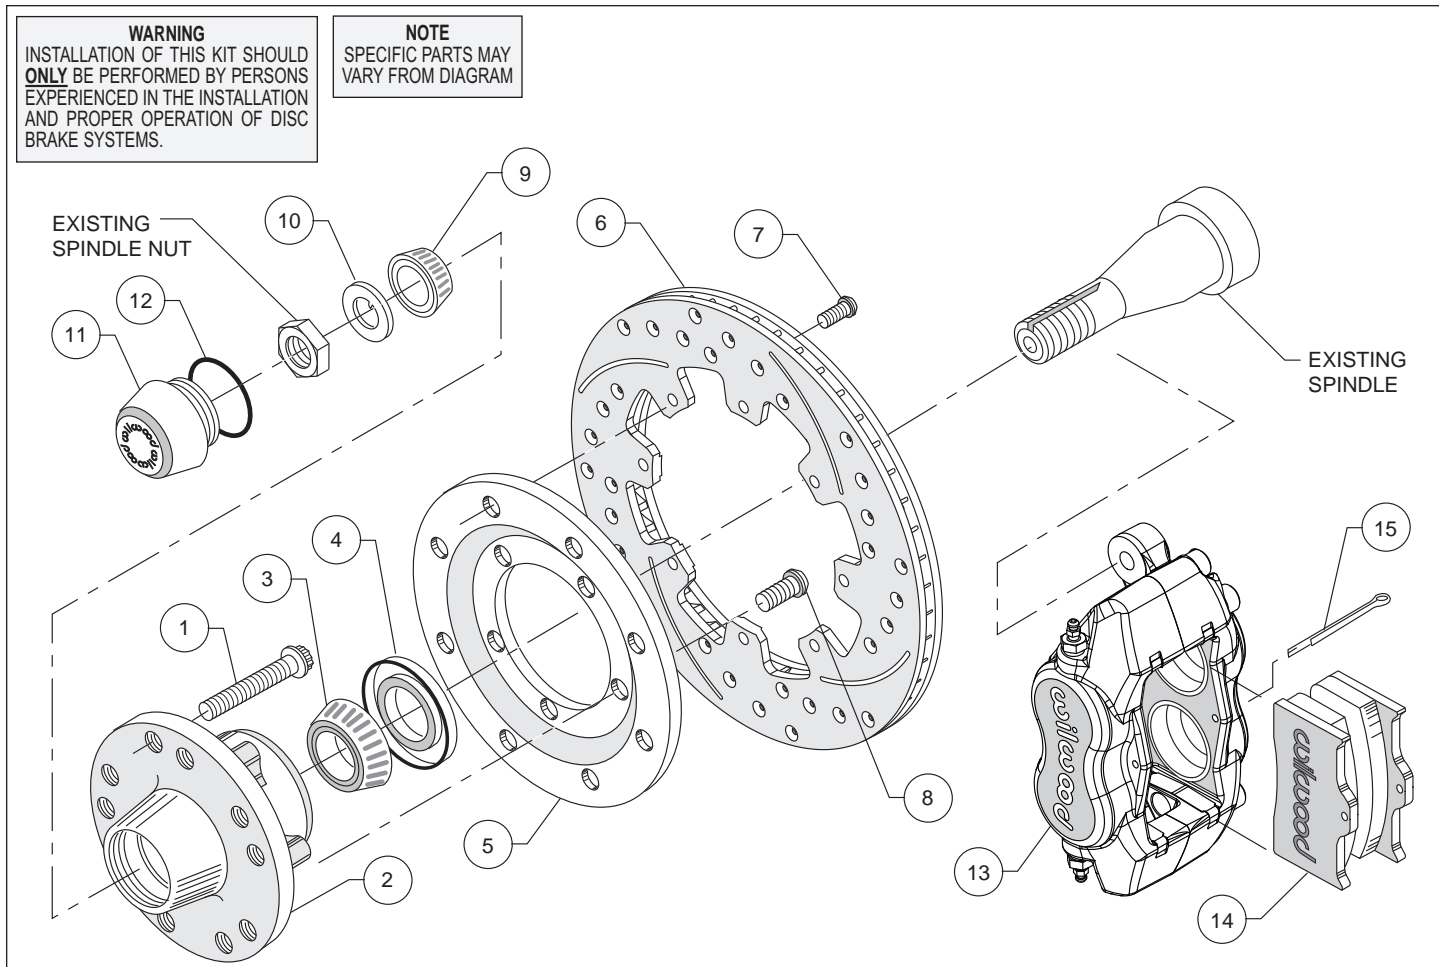

Figure 1. Typical Installation Configuration
- Install wheel studs (1) into the hub (2). Torque to 77 ft-lb. **NOTE:** There are two lug patterns of five holes each in the hub (5 x 4.50 and 5 x 4.75). Make sure of the correct hole pattern for the wheel application before installing the studs into the hub.
- Orient the rotor (6) and the rotor adapter (5) as shown in Figure 1. Attach the rotor to the adapter using bolts (7). Using an alternating sequence, apply red *Loctite*® 271 to the threads, and torque to 25 ft-lb.
- Mount the adapter/rotor assembly (5/6) to the hub (2) using bolts (8), as shown in Figure 1. Using an alternating sequence, apply red *Loctite*® 271 to the threads, and torque to 45 ft-lb.
- Pack the large inner bearing cone (3) with high temperature disc brake bearing grease (available from your local auto parts store) and install into the backside of the hub (2).
- Install the grease seal (4) by pressing into the backside of the hub (2).
- Pack the small outer bearing cone (9) with high temperature disc brake bearing grease and install into front of hub (2). Slide the hub assembly (2, 3, 4 and 6) with outer bearing cone (9) onto the spindle. Secure using spindle washer (10), stock adjusting nut and nut locking device. Adjust bearings per Original Equipment Manufacturer (OEM) specifications.
- Install the o-ring (12) and the dust cap (11) onto the hub (2). Friction created by the o-ring (12) on the dust cap (11) keeps it from unscrewing on its own.
- NOTE:** Please reference the caution statement at the beginning of the assembly instructions. Mount the caliper (13) to your bracket (supplied by spindle manufacturer) using bolt (16) and washer (17) slid through the mounting ears of the caliper (13) with one shim washer (18) placed between the caliper mounting bracket and the caliper (13). Finger tighten. View the rotor (6) through the top opening of the caliper (13). The rotor (6) should be aligned in the center of the caliper (13). If not, adjust the caliper (13) by using 0.032 inch thick shims (18) placed between the bracket and the caliper (13). Finger tighten and recheck alignment. Apply red *Loctite*® 271 to bolt threads (16) and torque to 40 ft-lb.
- Install the disc brake pads (14) and secure using cotter pin (15).